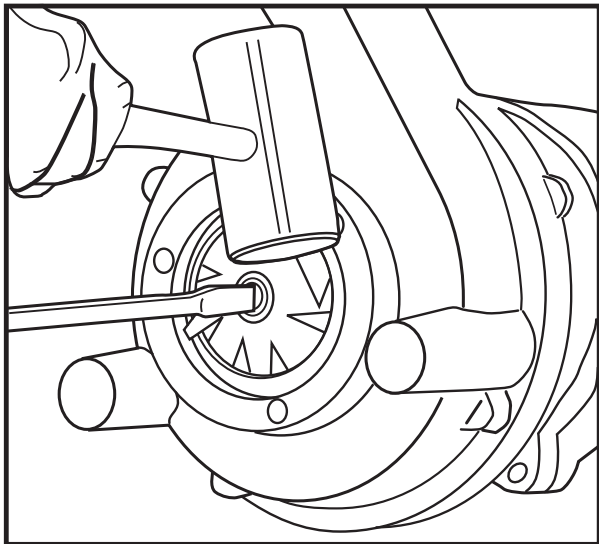

Fig. 6
7. Replace new grinder impeller, use screwdriver in slot while turning on impeller, until hand tight, with screwdriver still in shaft slot bump with plastic hammer. See Figure 6.